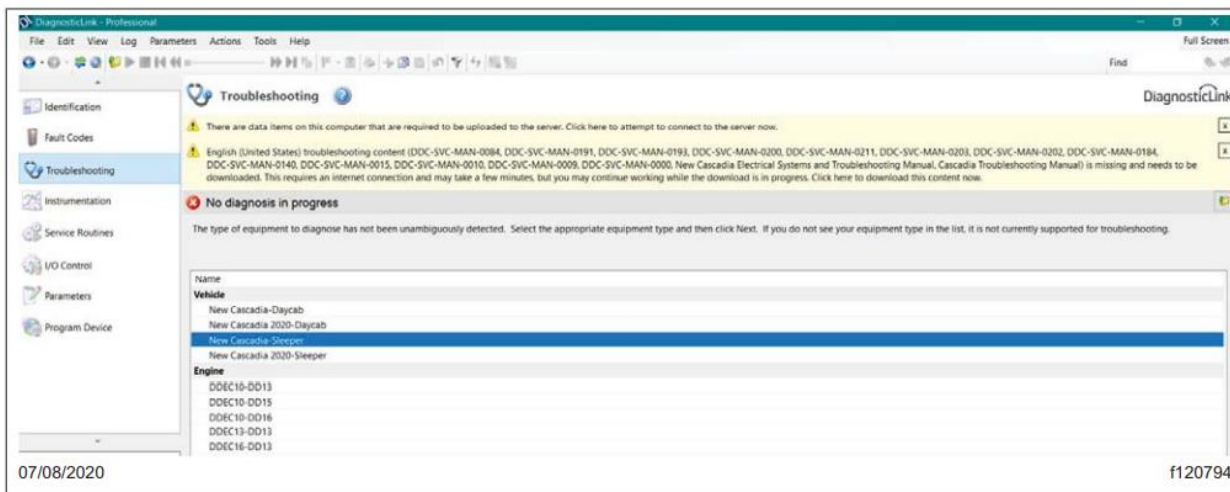
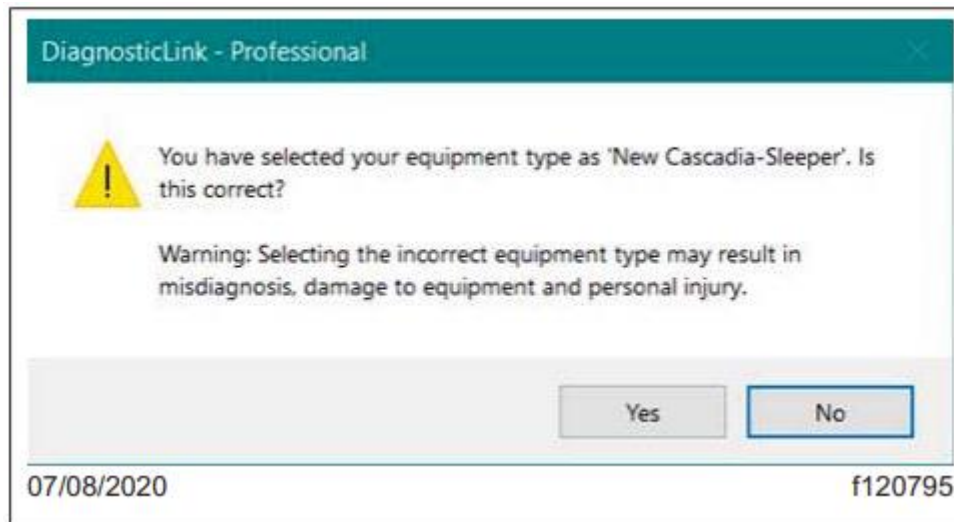

Fig. 9, Selecting the Applicable New Cascadia Model
Fig. 10, Verifying Vehicle Selection
16. From the vehicle selection options, select the applicable New Cascadia model. If DiagnosticLink has already connected to the vehicle, only one option will be available. There is no need to pick any other options from this screen. See Fig. 9 and Fig. 10. Click the 'Next' button to continue.